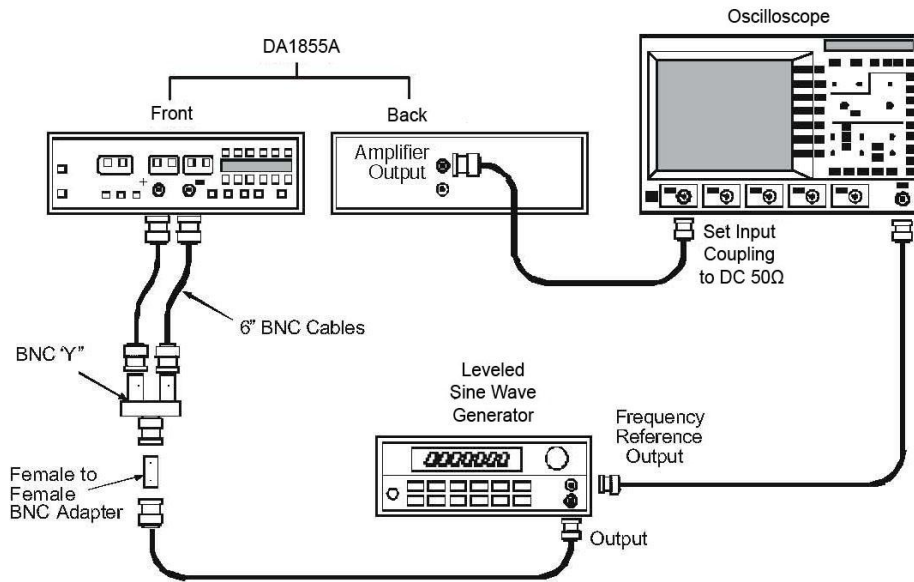

Figure 21, LF CMRR Check Setup
- h. Connect the two free ends of the 6" BNC cables to the +INPUT and –INPUT of the DA1855A. Refer to Figure 21.
- k. Set the oscilloscope to display channel 1, coupling to DC and impedance to $50\ \Omega$ and the vertical sensitivity as necessary to measure the amplitude of the displayed waveform. Refer to Figure 21
- u. Remove the sine wave generator output cable and reconnect it to the female to female BNC adapter and cables attached to the DA1855A inputs. Refer to Figure 21.